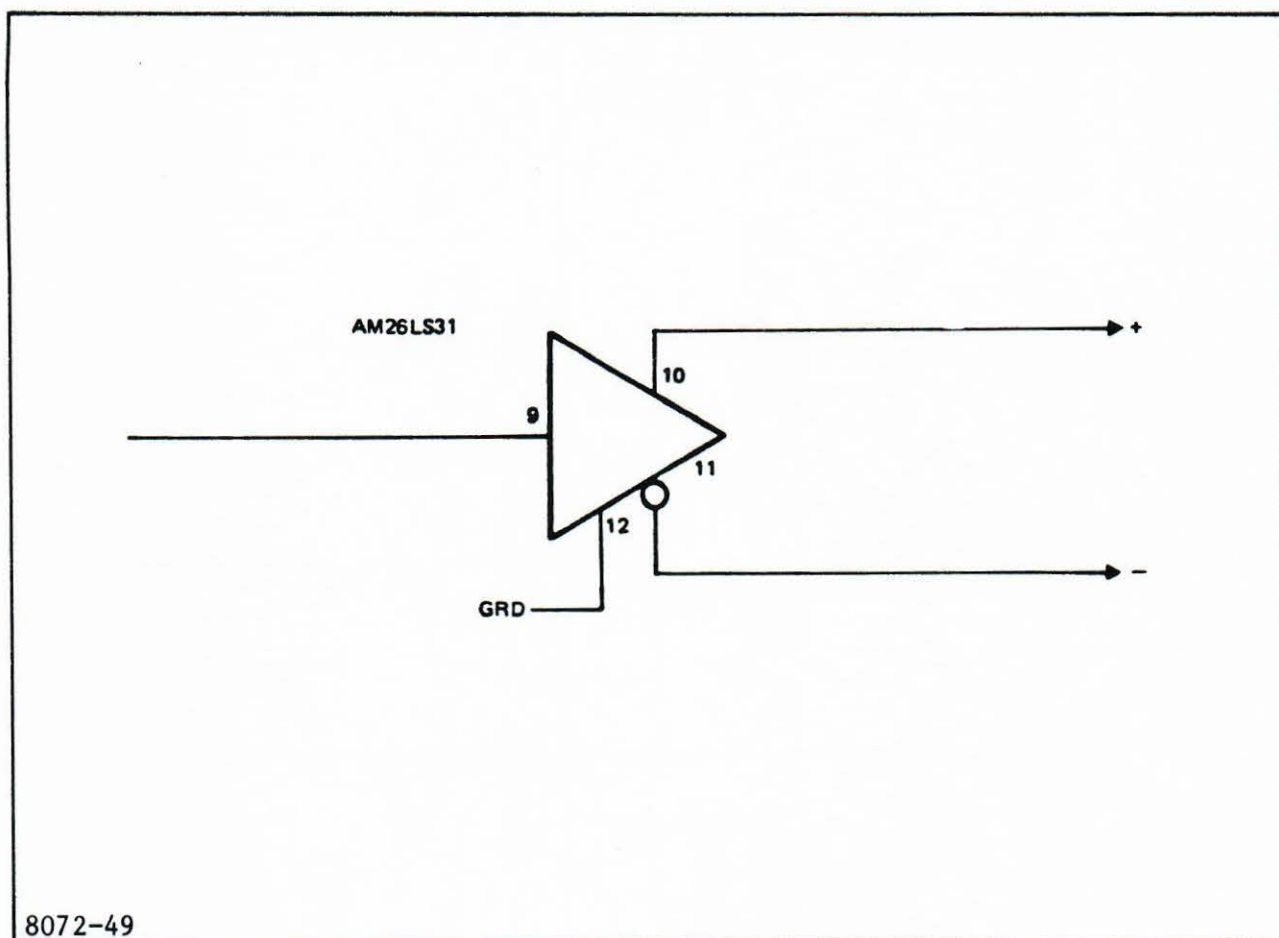
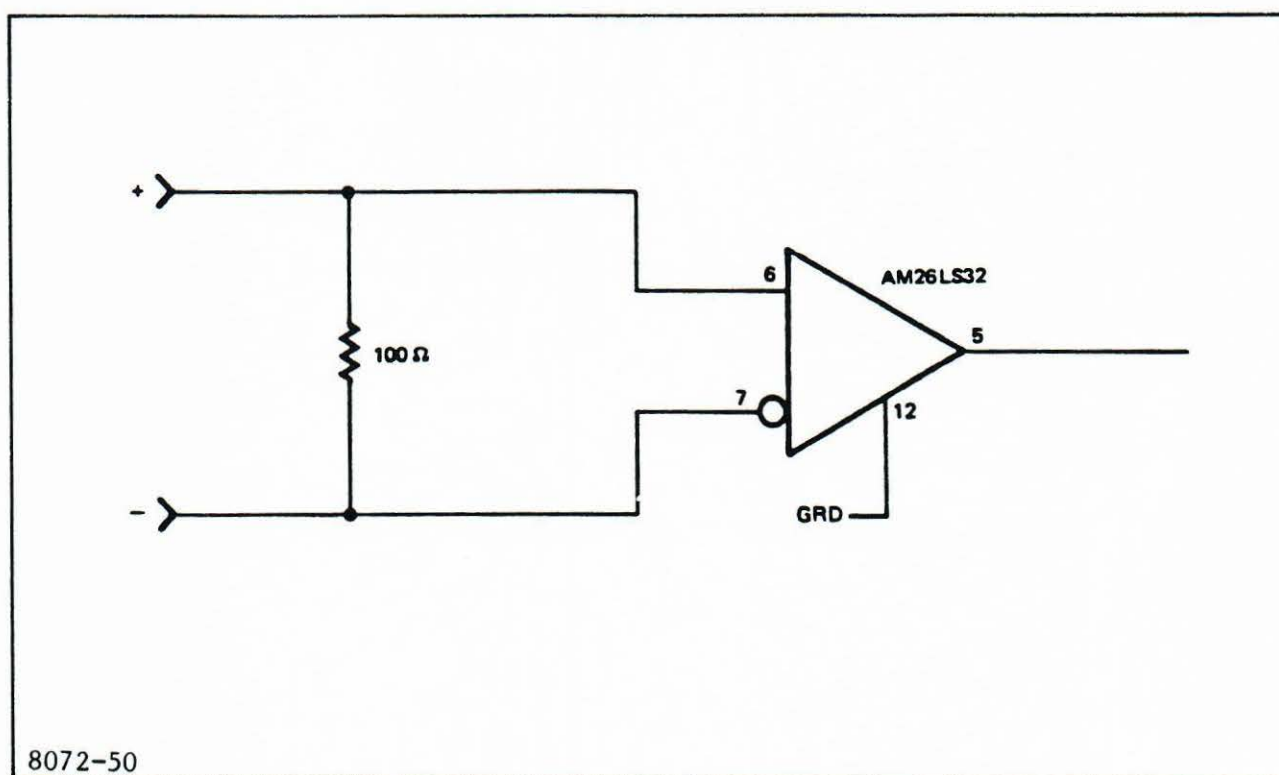
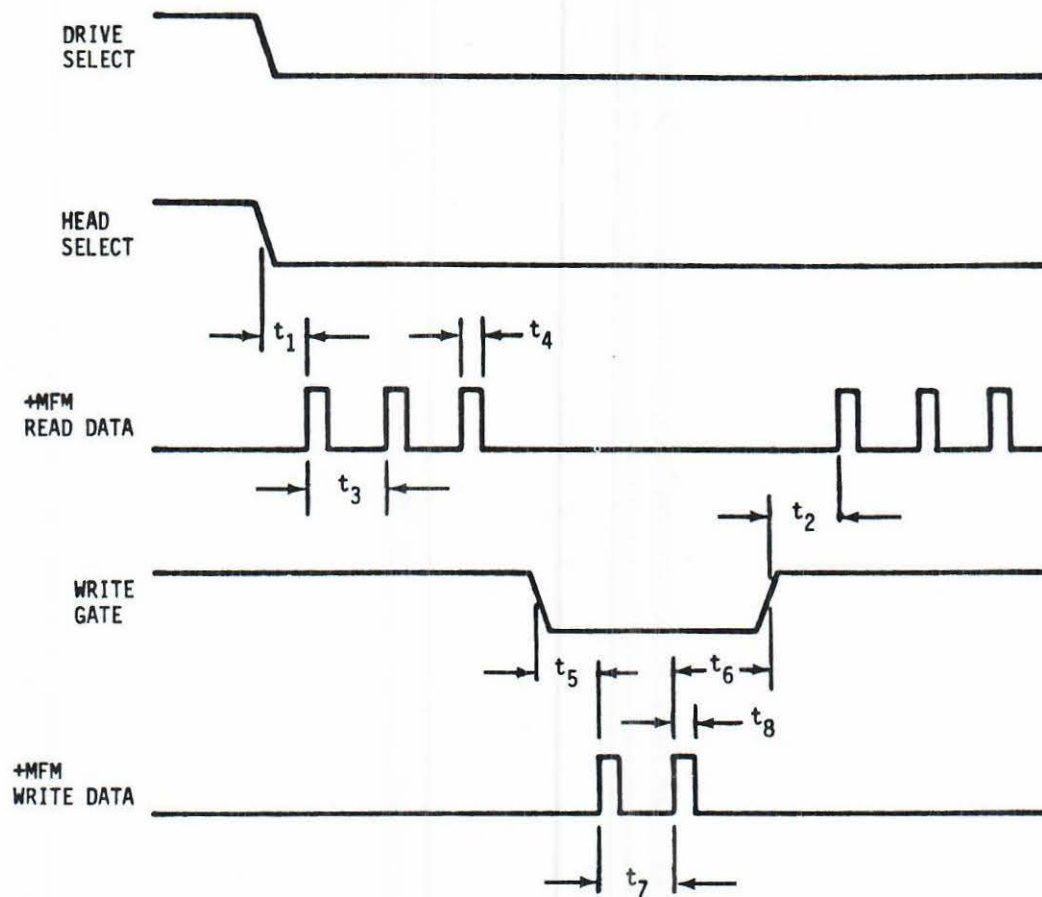

Figure 7-10. Differential Read Data Line Driver
Figure 7-11. Differential Write Data Line Receiver
Figure 7-12. Read/Write Timing
MFM Read Data - Data signals from the disk drive, recovered by reading a prerecorded track, are transmitted to the host system using an EIA RS-422 standard differential line driver, as shown in figure 7-10. This balanced voltage signal will drive up to 20 feet of twisted-pair or flat-ribbon cable with an impedance (Z) of 105 ohms. The recommended receiver is shown in figure 7-11. The transition of +MFM read data going more positive than -MFM read data represents a magnetic flux transition on the disk under the selected head. Timings are shown in figure 7-12.
MFM Write Data - The MFM write data is transmitted by the host system to the disk drive using a standard differential line driver. (The line driver and the line receiver are the same type as used in transmission of the read data. See figures 7-10 and 7-11.) The transition of the +MFM Write data going more positive than -MFM Write data results in a flux reversal on the disk under the selected head, provided Write Gate is true and the drive is selected (Drive Select is true). MFM write data is inactive when Write Gate is false.